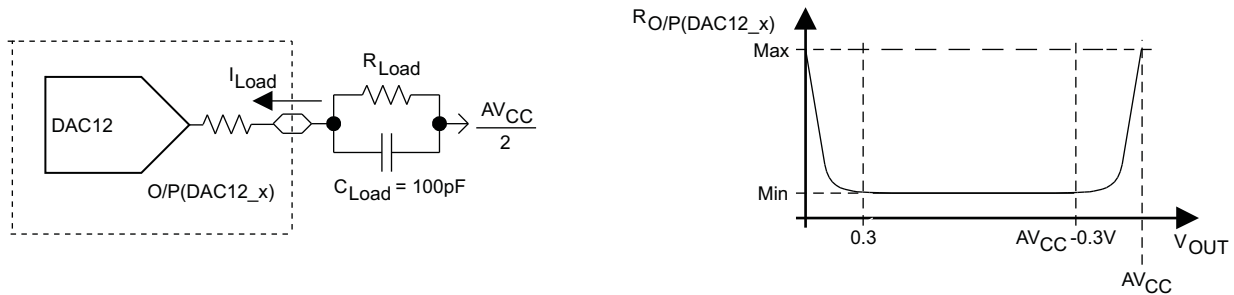

Figure 5-23. DAC12\_x Output Resistance Tests
| V OOutput voltage range (1) (see Figure 5-23) | No load, V REF+ = AV CC , DAC12_xDAT = 0h, DAC12IR = 1, DAC12AMPx = 7                     | 2.2 V, 3 V      | 0                       |     | 0.005            | V    |
| R O/P(DAC12)Output resistance (see Figure 5-23)          | R Load = 3 kΩ, V O/P(DAC12) < 0.3 V, DAC12AMPx = 2, DAC12_xDAT = 0h                       | 2.2 V, 3 V      |                         | 150 | 250              | Ω    |